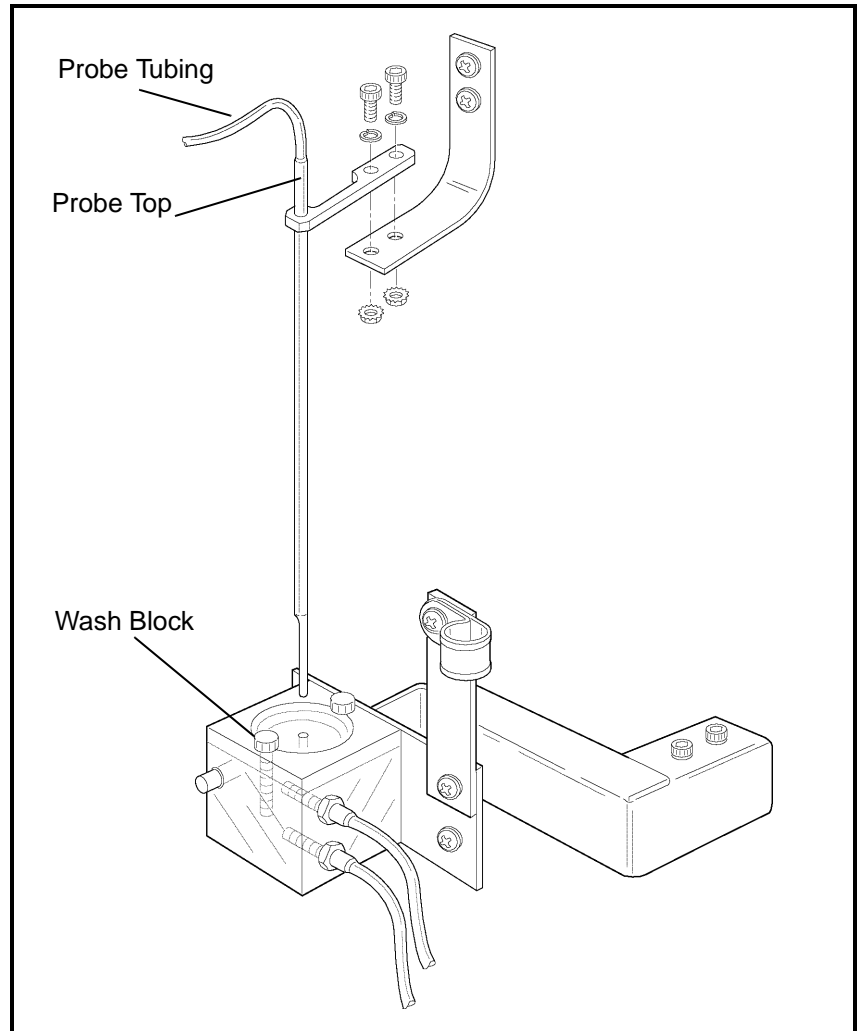

Figure 9.11: Open Sample Probe Assembly
2. Locate the tubing attached to the top of the Open Sample Probe. (Refer to Figure 9.11.) Place a small beaker or container under the probe to catch the rinse solution. (Hint: Attach one end of a length of 1/32" tubing to the aspiration end of the probe and place the other end of the tubing in the beaker to prevent splashing.)